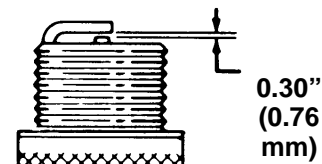

Figure 33
- Set the air gap between the electrodes of the spark plug at 0.030 in. (0.76 mm) (Fig. 33).